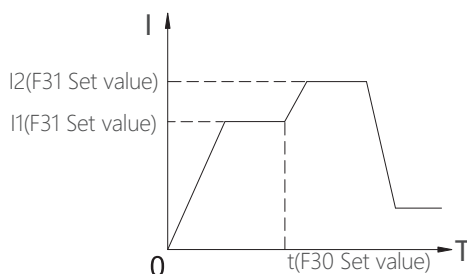

Figure 6.7 Functional schematic diagram of secondary current limiting
**F30 Se. Limit I.ST** Settable range: (0-30) s. 0: indicates that the secondary current limiting function is invalid; (1-30) s: indicates that the secondary current limiting begins after (1-30) s from soft. The function parameter indicates how long after the soft start to start the secondary current limiting, which has better application effect in heavy load situations, as shown in Figure 6.7.